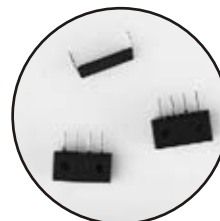

Fig.1
- Every sensing element is protected by a plastic package, safety in use and transport. (as fig. 1)